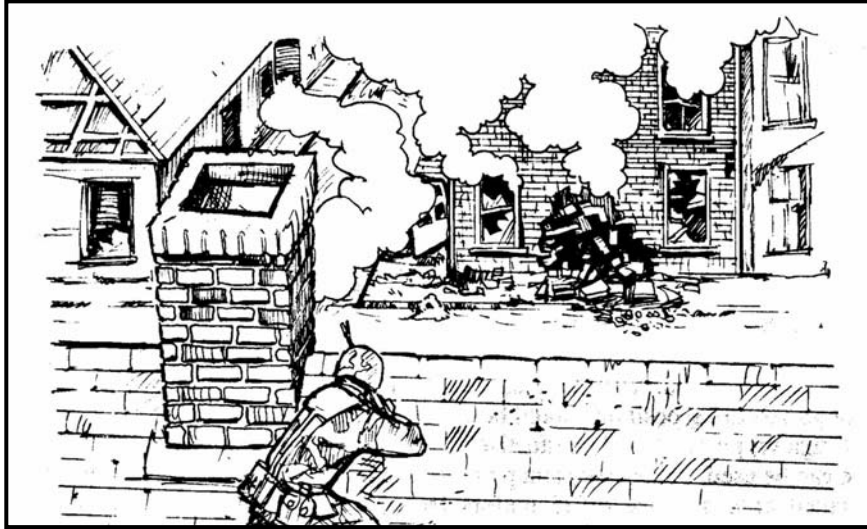

Figure 7-6. Firing over rooftops.
a. The requirement for long-range observation can dictate that positions be occupied that are high above ground. Figure 7-6 shows a soldier firing over rooftops, exposing only the parts of his body necessary to engage a target.